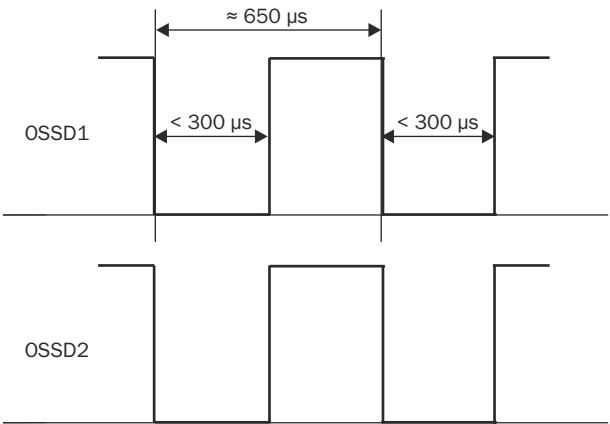
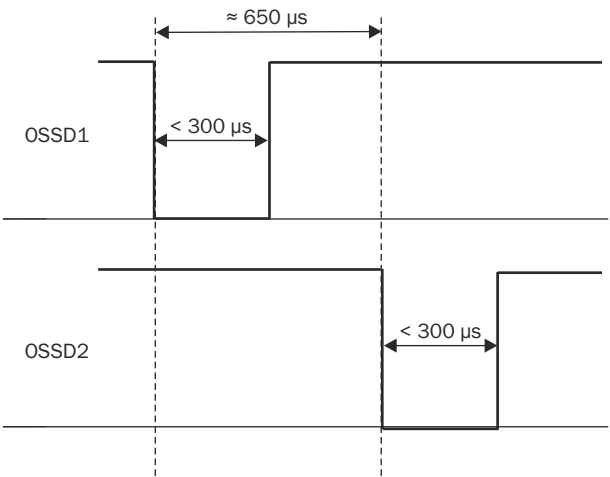
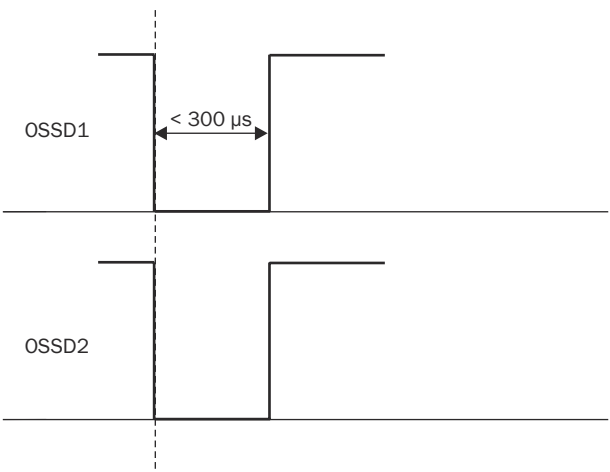

Figure 93: Voltage test after switching on the OSSDs
Figure 94: Shut-down test
Figure 95: Voltage test
After a further half basic response time of the device there is a shut-down test ②, 120 or 240 ms 7) later a further voltage test ③. Then the device performs a shut-down test and a voltage test alternately at an interval of 120 or 240 ms 7) Pulse duration for the individual tests, see figure 93, page 150, see figure 94, page 150, see figure 95, page 150.